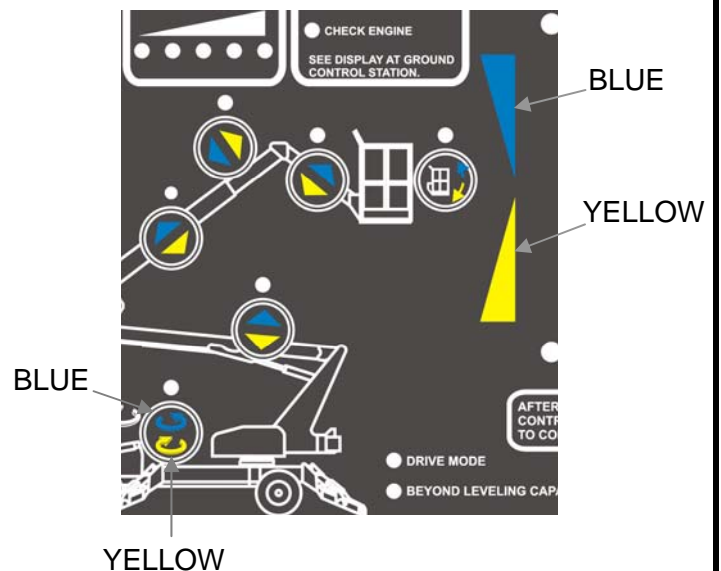

Figure 3-4. Rotating the Boom
The yellow and blue arrows coincide with the direction of rotation, to rotate **CLOCKWISE** move the **JOYSTICK** in the direction of the yellow arrow, to rotate **COUNTER CLOCKWISE** move the **JOYSTICK** in the direction of blue arrows. Refer to Figure 3-4.
- Fully lower the boom onto the boom rest to enter the platform using a three (3) point contact (both hands and one foot).
- Raise the safety bar and enter the work platform by using a three (3) point contact (both hands and one foot). Put on a safety harness and attach the lanyard to the **ANCHORAGE** (attachment point) on the side of the platform support beam.
- Unfasten the safety harness and exit the platform by using a three (3) point contact (both hands and one foot).
**NOTE:** Refer Figure 3-4 for a visual of these latches.
- Inspect the area beneath the aerial work platform and trailer for obstructions before retracting outriggers. Press (push) and hold the outrigger **RETRACT (22)** button and the **AUTO LEVEL (23)** button until all outriggers are fully retracted to their “stowed” (upright) positions.